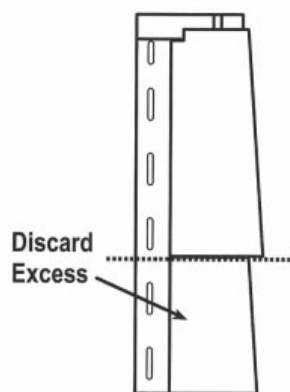

Fig. 2
1. Cut and remove section below butt (Figure 2).